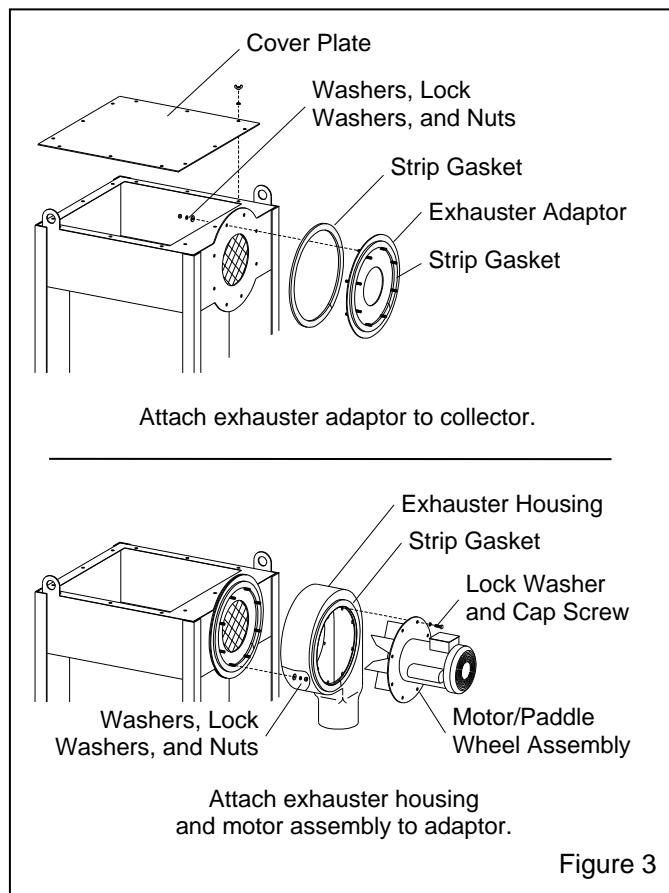

Figure 3
2.3.3 Mounting Exhauster Assembly to CDC Dust Collector – Figure 3
2.3.3.4 Peel a short section of backing from the strip gasket and apply the gasket around the outside of the studs on both sides of the exhauster adaptor, as shown in the upper section of Figure 3, peeling away the backing as needed. Make sure the ends of the gasket fit tightly together. **NOTE:** An adaptor is not used on 900 cfm dust collectors; the exhauster housing bolts directly to the dust collector.